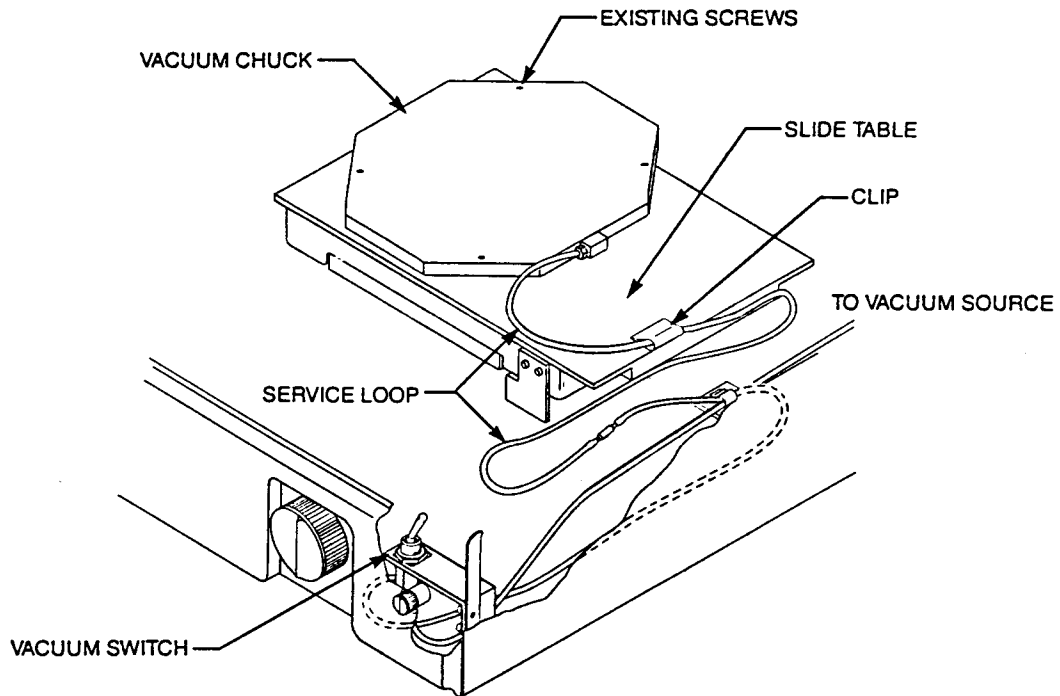

Figure C-2. AUTO I Stage and Tube Routing
8. Remove the protective paper from the back of the clip. Attach the clip to the top of the slide table approximately two and one half inches from the front edge. The tube should be flush with the side edge of the slide table when installed in the clip (see Figure C-2).